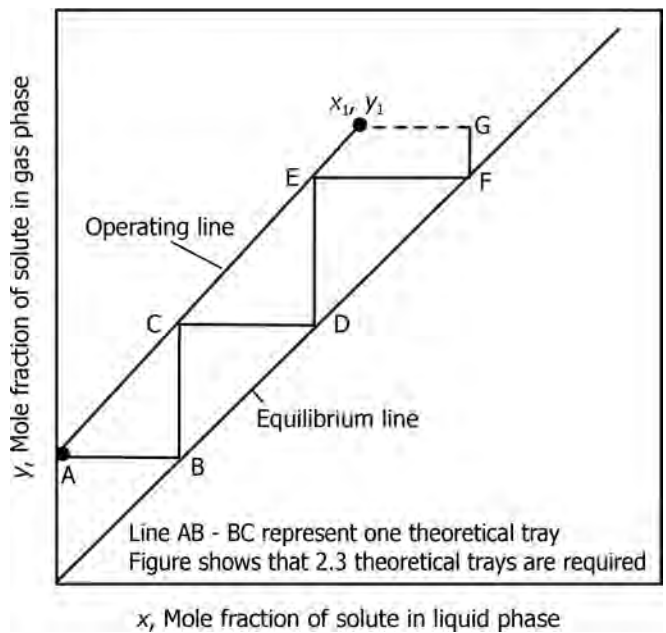

FIGURE 17.5 Graphical determination of number of trays for absorbers.
- Figure 17.5 illustrates the McCabe–Thiele graphical construction of number of theoretical trays for a